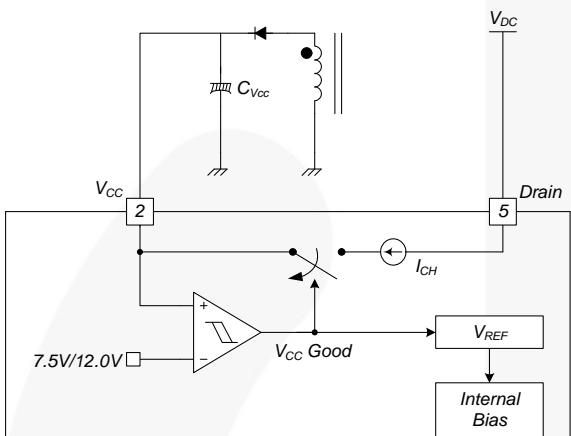

Figure 17. Startup Block
1. Startup: At startup, an internal high-voltage current source supplies the internal bias and charges the external capacitor ($C_{V_{CC}}$) connected to the V_{CC} pin, as illustrated in Figure 17. When V_{CC} reaches 12V, the FSL156MRBN begins switching and the internal high-voltage current source is disabled. Normal switching operation continues and the power is supplied from the auxiliary transformer winding unless V_{CC} goes below the stop voltage of 7.5V.